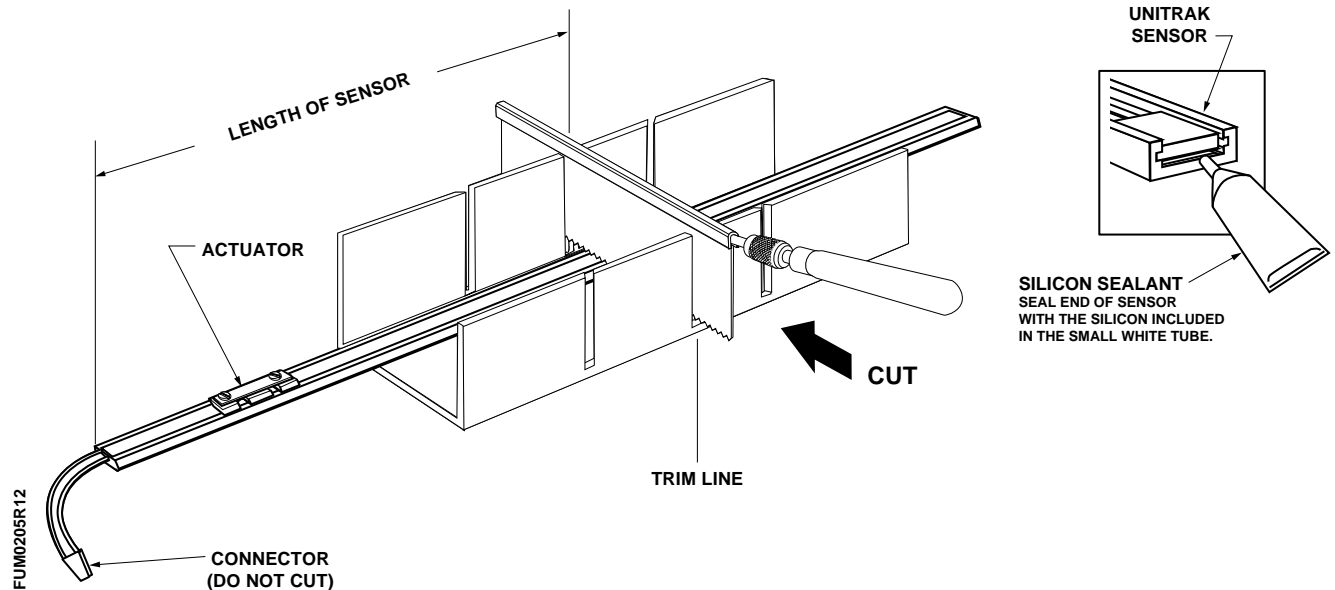

Figure 2. Cutting UniTrak® Sensor Using the Trim Tool Kit.
1. Compare the actual length of the sensor strip with the required length of the sensor strip determined in Section 1. If necessary, use the trim tool kit to cut the sensor strip. Be sure that the sensor is face up. See Figure 2. If you do not have to cut the sensor strip, skip to Step 3.
2. Separate the two sensor wires and seal the cut ends with the provided silicon (small, unmarked white tube). Rejoin the sensor wires. See Figure 2.